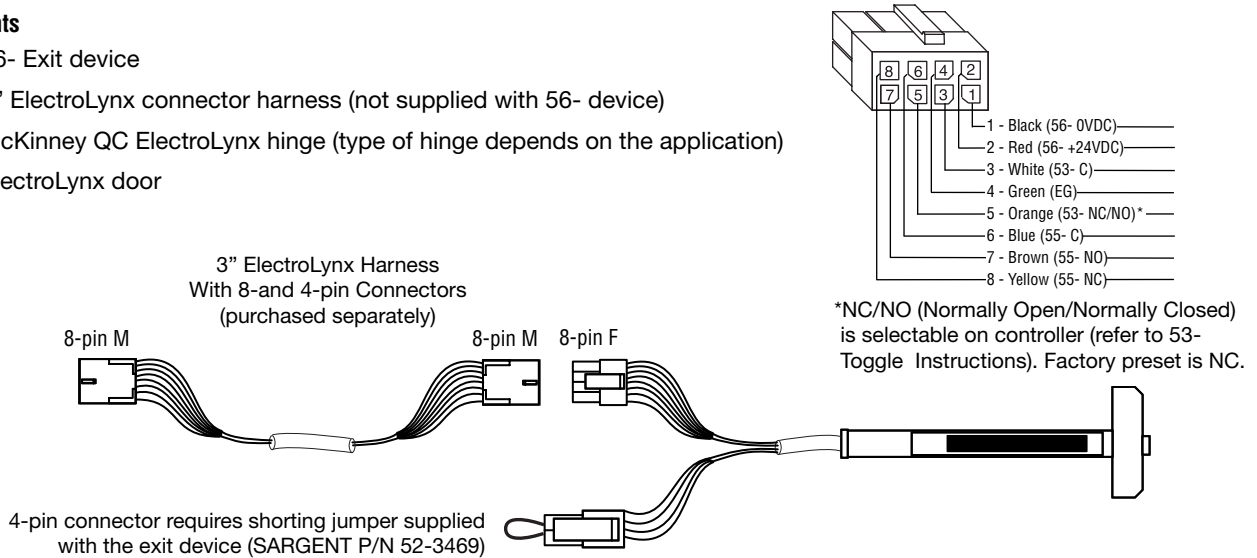

Fig. 6 ElectroLynx POWER MODE Wiring
2. Connect the ElectroLynx harness in the door (Fig. 6 ElectroLynx **POWER MODE** Installation):
- a. Leave the shorting jumper connected to the 4-pin ElectroLynx connector (Fig. 6 ElectroLynx **POWER MODE** Installation).
Note: Earth Ground is required for Electrostatic Discharge (ESD) protection unless the metal door and frame are already earth grounded; otherwise, earth ground wiring is required at pin 4 (Fig. 6 ElectroLynx **POWER MODE** Wiring).
<ul style="list-style-type: none"> o Check inputs to confirm proper voltage and wiring orientation (Fig. 6 ElectroLynx POWER MODE Installation). o Remove end cap from rail and confirm that LED is blinking steadily when power is applied. If not, refer to LED signaling. Note: When configured in POWER MODE, power is released to lock the device (LED will not blink when power is released). o Verify that the 4-Pin Molex shorting jumper is installed (connector with bright orange tag).